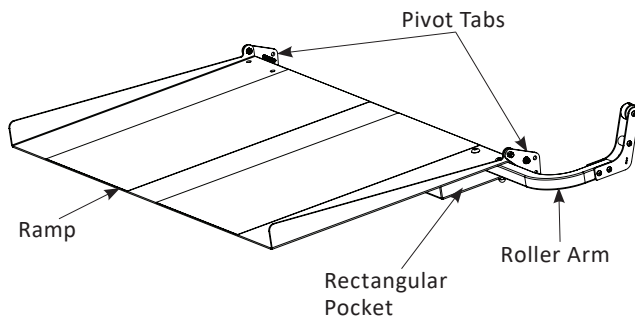
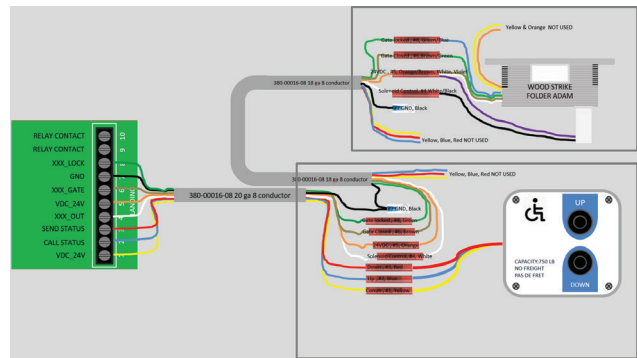
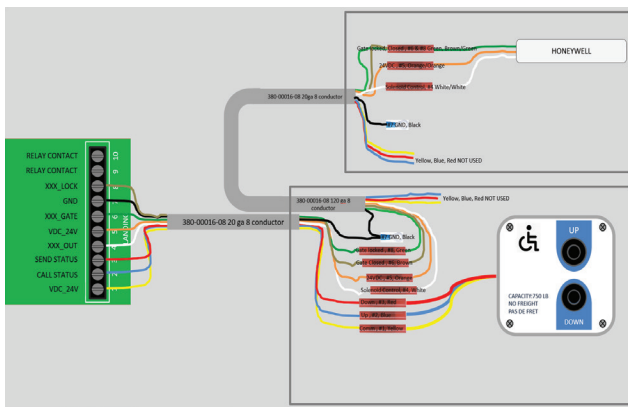
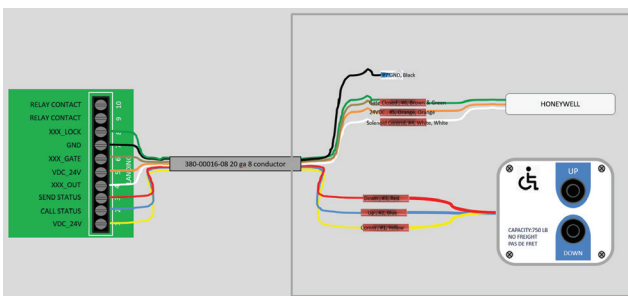

Figure 4-7
Figure 4-11
Figure 4-9
Figure 4-10
2. Assemble the ramp roller arm into the rectangular pocket of the ramp with the provided hardware. *See Figure 4-7.*
1. Landing wires are pre-wired to the control board. Retrieve wires that are coiled up inside the tower and determine routing of wires going to the landing gate or call send box. **See Figure 4-9 for wiring to a call station.** **See Figure 4-10 for wiring to a landing gate.** **See Figure 4-11 for wiring to a call station and strike.**
2. Remove four (4) cover screws and the front cover from the back cover.
3. Landing wires are pre-wired to the control board as shown in Figure 4-7. Retrieve wires that are coiled up inside the tower and determine the routing of wires going to the call station. Verify applicable code requirements.
4. If using the back cover for a wall mount setup, cut out the desired knock-out for wire routing. There are four (4) knockouts on the back cover. Two (2) on the back surface, one (1) on the top and one (1) on the bottom.
6. Mount back cover to the wall using appropriate fasteners through four (4) holes in the back surface of the back cover.
8. Use crimp connectors to make cable connections in the call station. *See Figure 4-9.*
9. Install the front cover to back cover or in-wall outlet box with four (4) cover screws.
10. Install label plate on the front cover with four (4) label plate screws.
Connect wiring per device instructions and Figures 4-9 or Figure 4-11 on page 16. For details, please refer to the supplemental guide "Highlander II Wiring Schematics".